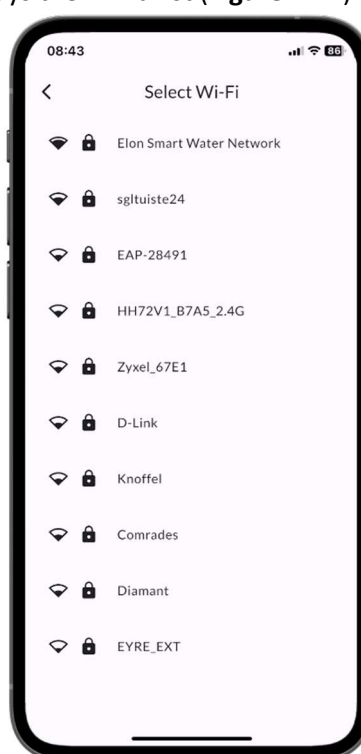

Figure 4.12 Select Wi-Fi
38. The application searches for the available networks and displays them in a list (**Figure 4.12**).